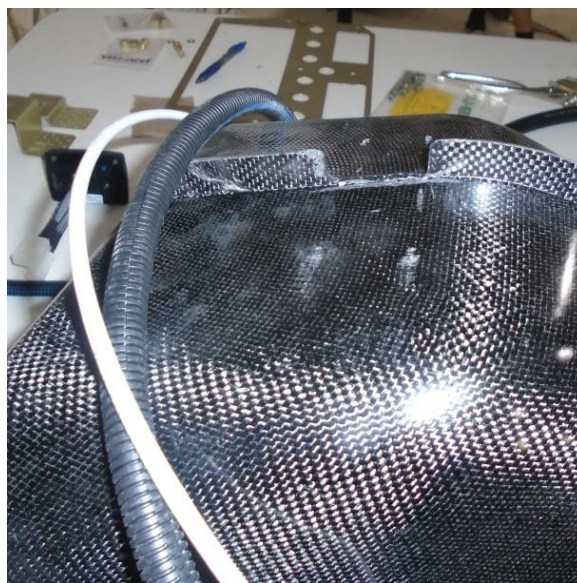
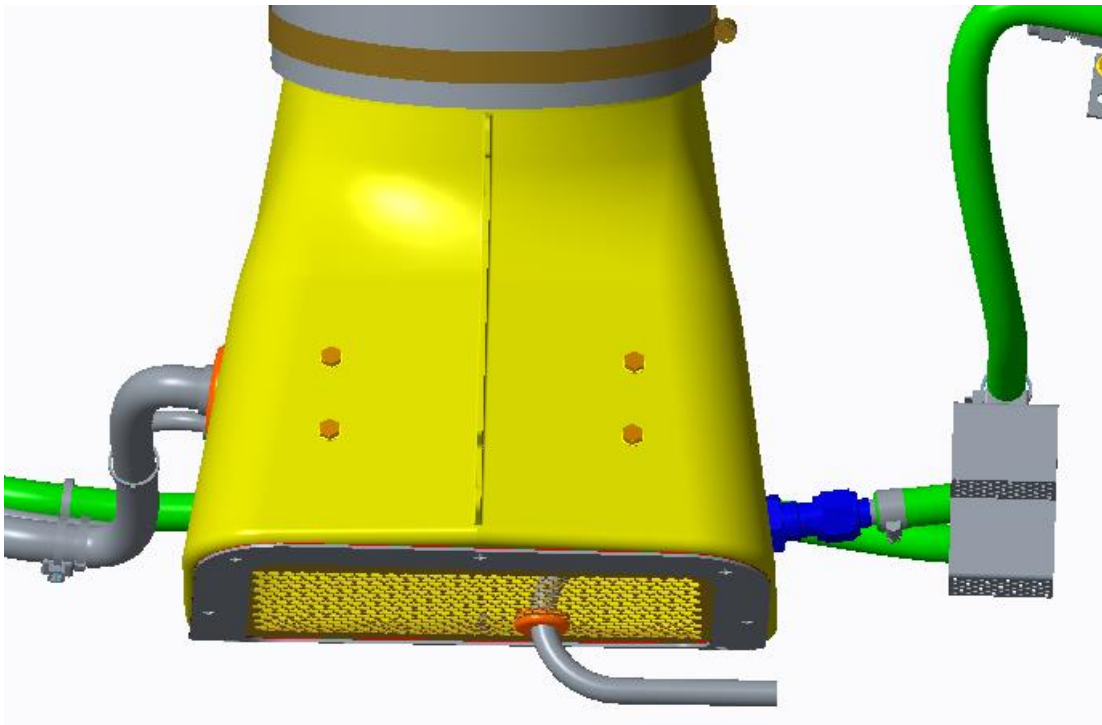

Figure 21 – Condenser Inlet Modification
Figure 23 – Condenser Inlet & Drain Installation
- 1) Install the AC-02139 Condenser Inlet Assembly per the notes and views. See Figure 21 through Figure 23. Depending on aircraft wire routing, a notch may need to be cut in the flange as shown in Figure 21.